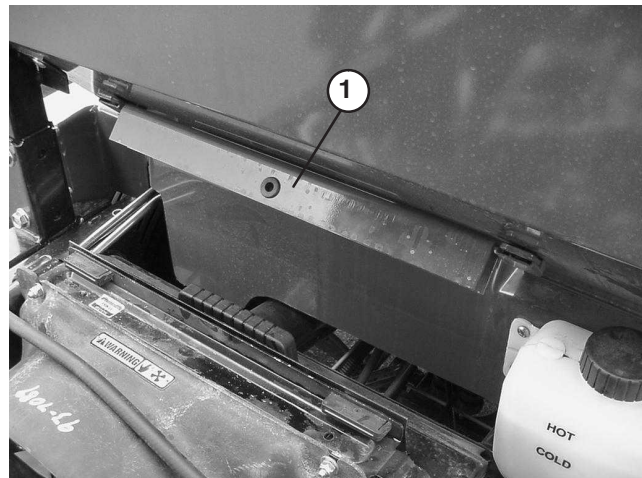

Figure 27
2. Remove bed support from storage brackets on back of ROPS panel (Fig. 27).